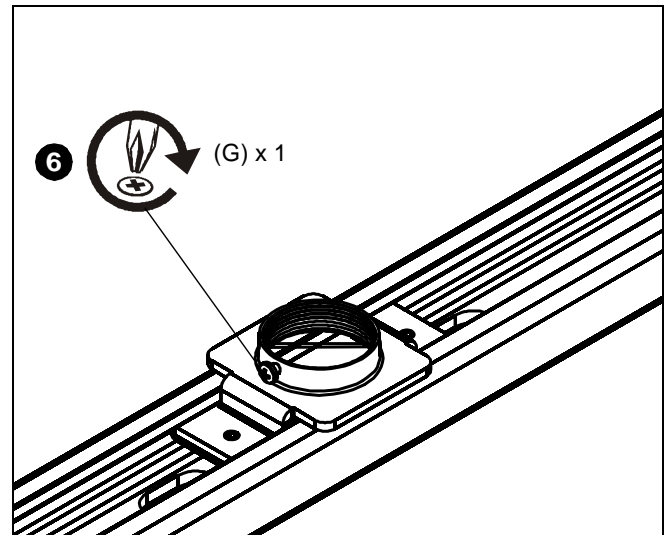

Figure 3
5. Install 1-1/2" NPT threaded column (not included) into threaded collar on ceiling plate (A).
6. Install one 10-24 x 1/4" Phillips head screw (G) into threaded collar and tighten. (See Figure 3)